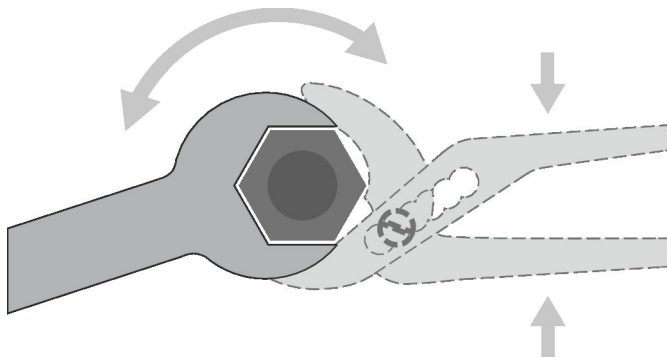

Fig. 29: Using water pump pliers to counter the tightening force
1. ▶ Hold the threaded pipe tail of the heat exchanger with water pump pliers (Fig. 29 /2).
2. ▶ Hold the threaded pipe tail with the pliers while you use a spanner (hexagonal profile, Fig. 29 /1) to connect the heat exchanger to the pipework (pipework by others).
- When connecting, fix the threaded connection on the heat exchanger with a pipe spanner (Fig. 29 /2).